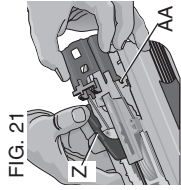

FIG. 21
2. Move contact trip (Z) to the side while pulling back on the return cord assembly (Fig. 21).